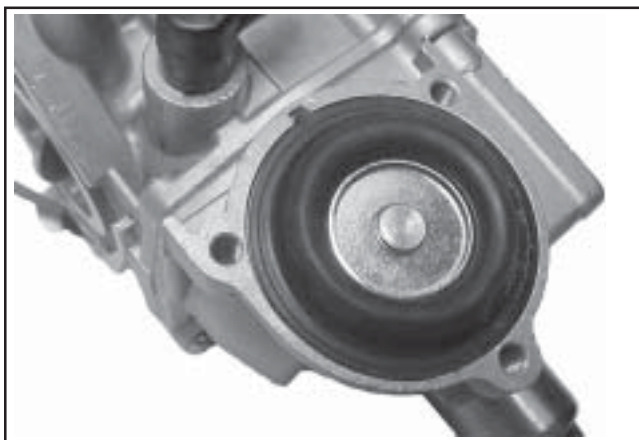

Figure 5-33. Diaphragm Installed.
6. Notice the small alignment tab and the small bead on one side of the outer diameter of the new diaphragm. Install the diaphragm into the housing, so the alignment tab is in the small notch, the bead is down in the recessed channel, and the "donut" around the metal center plate should be out, facing you. See Figure 5-33.